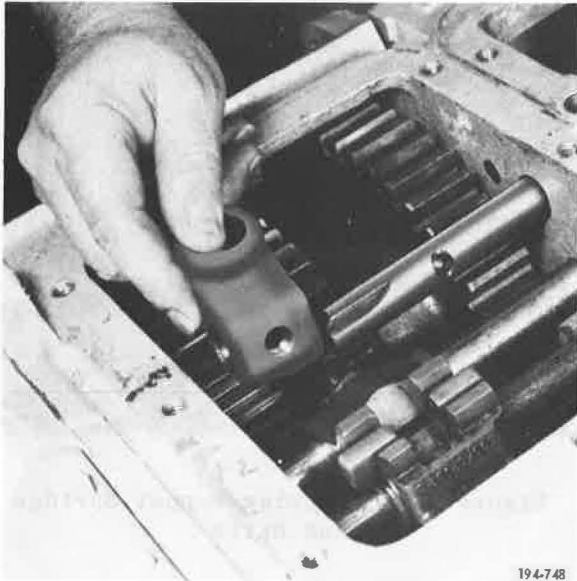

Figure 20. Removing Shifter
18. (Rearward controls only) Remove front compound shifter from shift rail. See Figure 20.